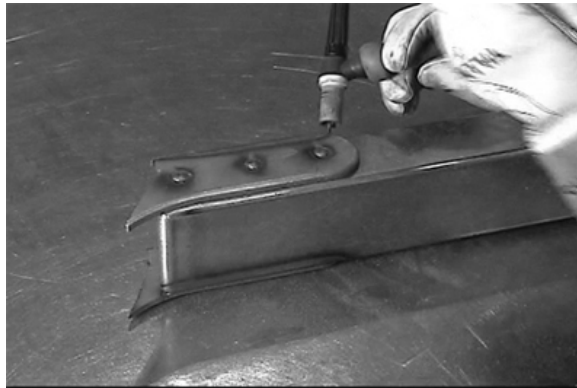

Figure 12
16. Once the brackets are positioned as desired, the inside and outside brackets can be tack welded to the connector. **DO NOT WELD THE BRACKETS TO THE SUBFRAME AT THIS TIME.** Remove the connector and bench weld the brackets to the connector. These brackets should be welded around the entire perimeter and plug welded in the holes in the bracket as shown in Figure 12.